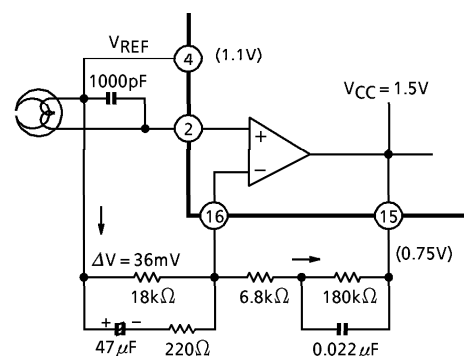

Fig.4 NFB terminal
The resistance of  $18k\Omega$  is advisable to be connected between NFB terminal (Pin⑩ and ⑪) and  $V_{REF}$  for using this IC. That is because NFB terminal is designed to have the off-set voltage ( $\Delta V = 36mV$ ) against each terminal (Pin ②, ③, ⑤ and ⑥). Therefore, the DC potential of the output terminals (Pin⑬ and ⑭) can be set at about  $V_{CC}/2$  with the current produced by this off-set potential. (Fig.4)